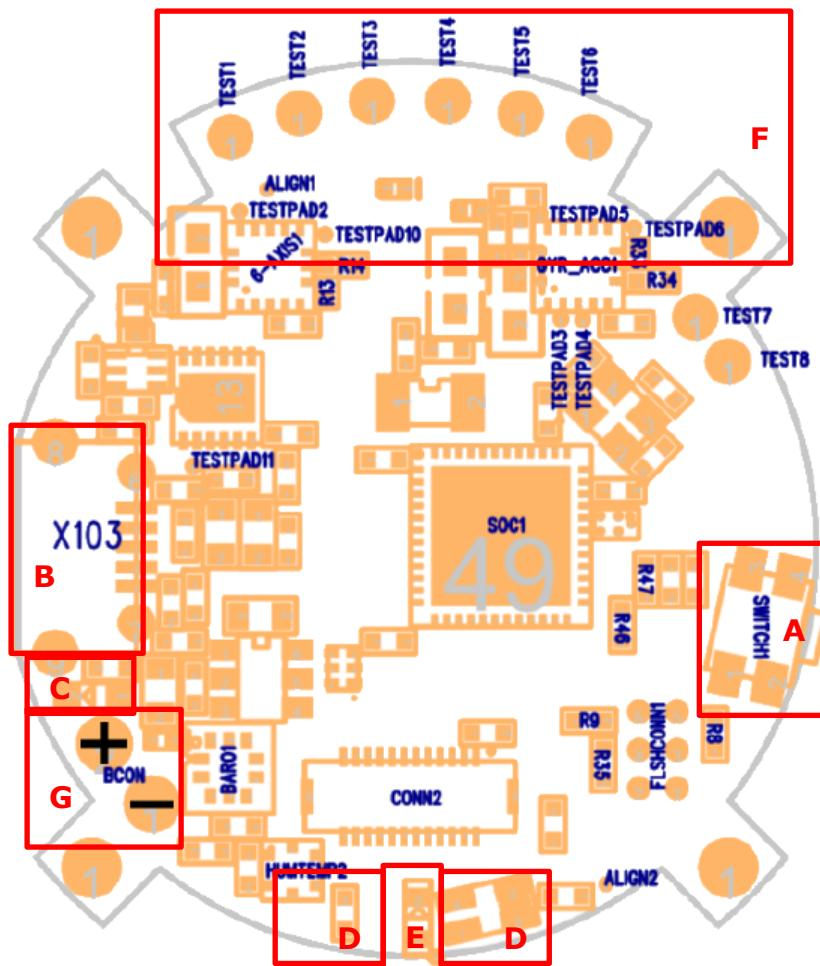

Figure 5: *Kionix IoT Sensor Node* component placement
The main parts of layout and component placement are as follows (Figure 5):
- Kionix IoT Node add-on board (CONN2 in Figure 5)